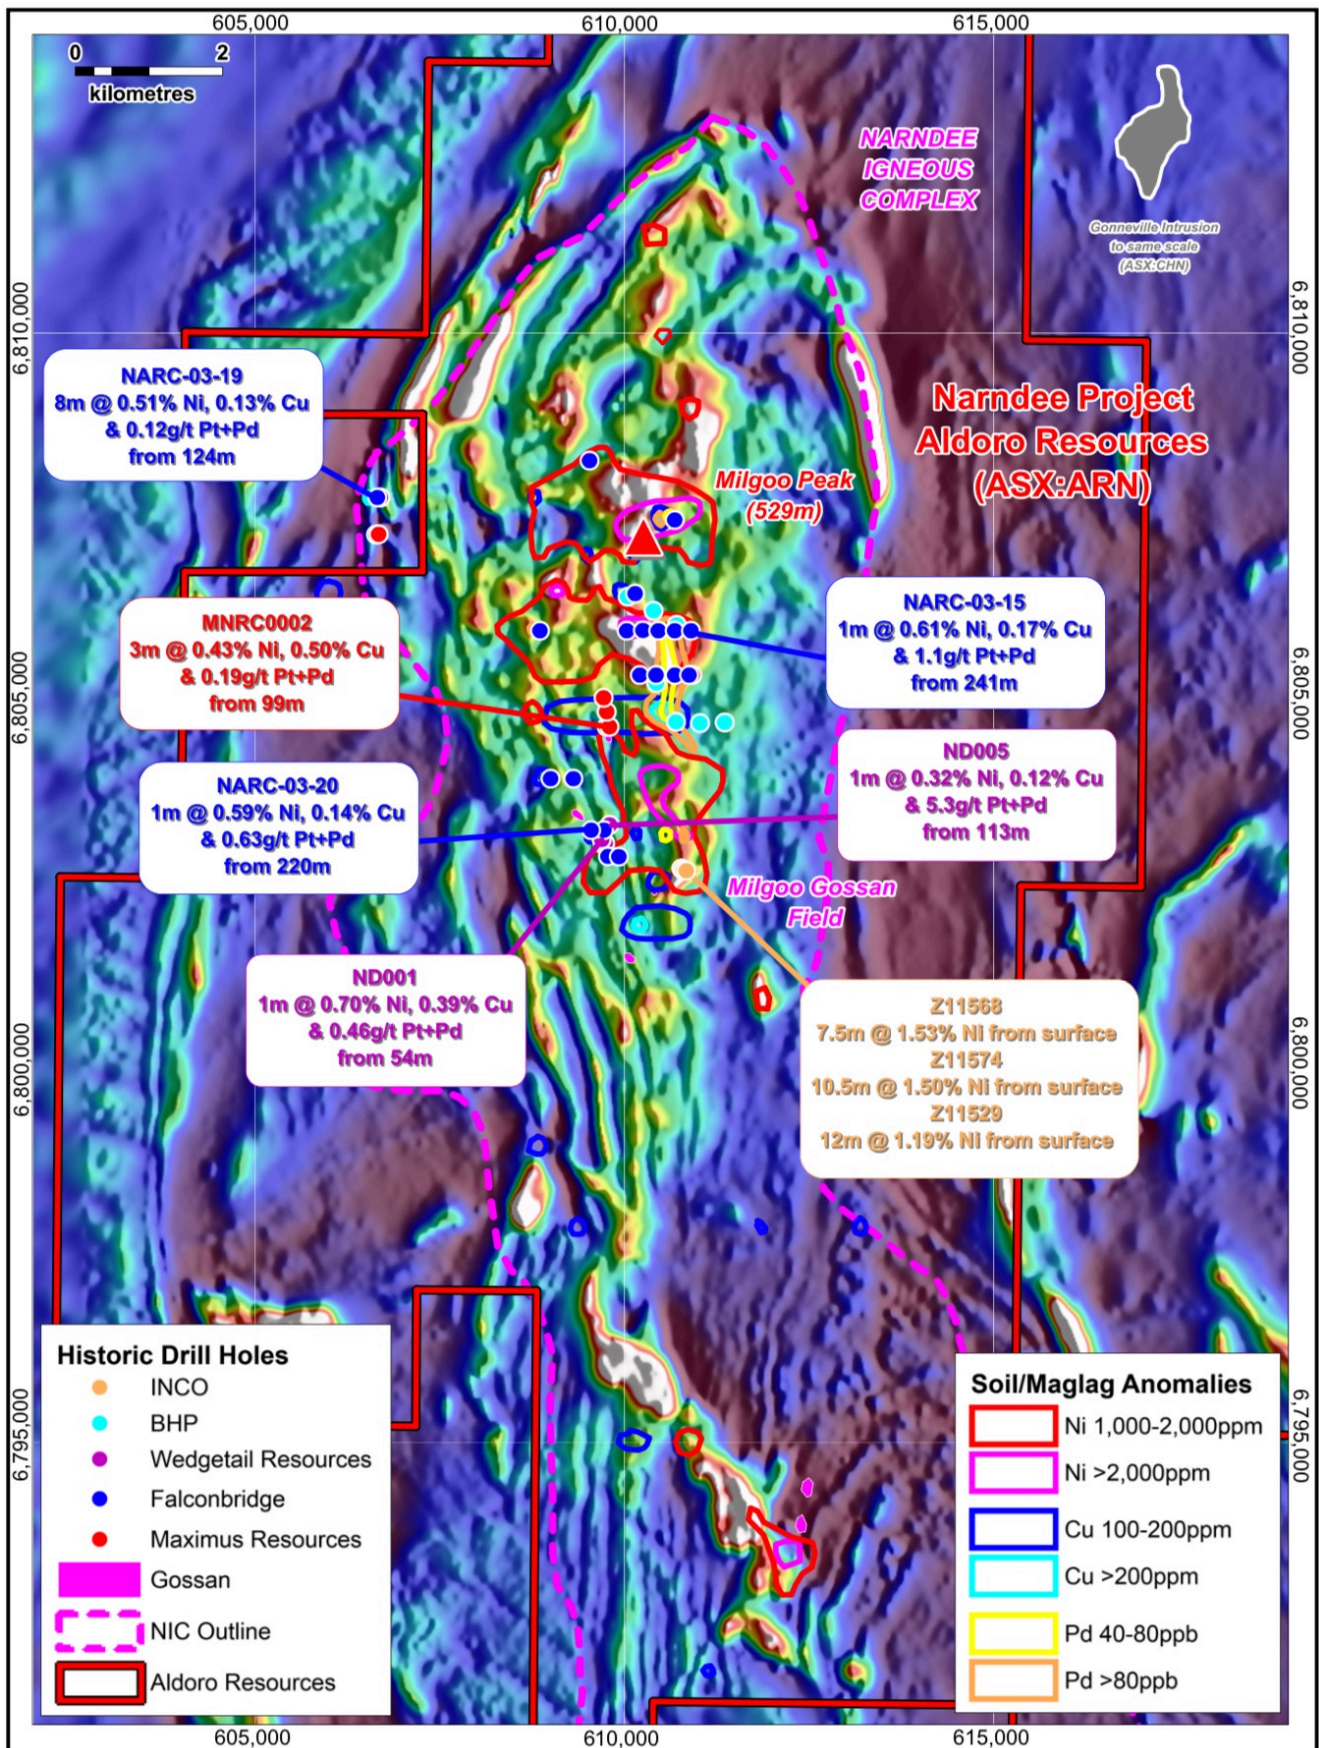

Figure 2: Geochemical Anomalies and Significant Historic Drill Holes
Falconbridge conducted geochemical surface sampling across the NIC finding **widespread Ni-Cu-PGE anomalies of up to 6,190ppm Ni, 672ppm Cu and 595ppb Pt+Pd in soil and magnetic lag** samples (Figure 2). They conducted a 20 hole reverse circulation (RC) drilling program, the most comprehensive program to date within Aldoro's under-explored 306km² project area - with only 37 holes deeper than 100m drilled within the Nardee Project area, including these Falconbridge holes.